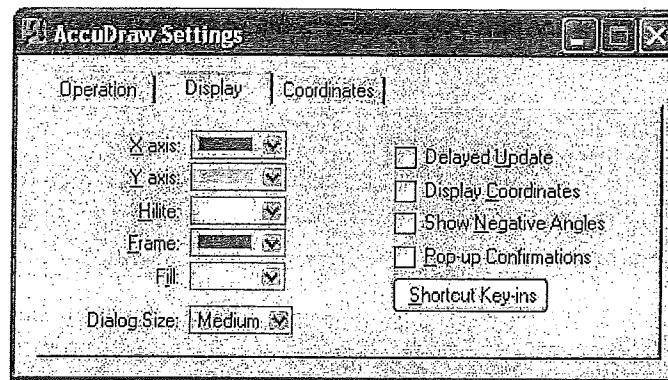

Figure P5-4 AccuDraw Display settings
STEP 9: Click the **Display** tab and make the settings shown in Figure P5-4.